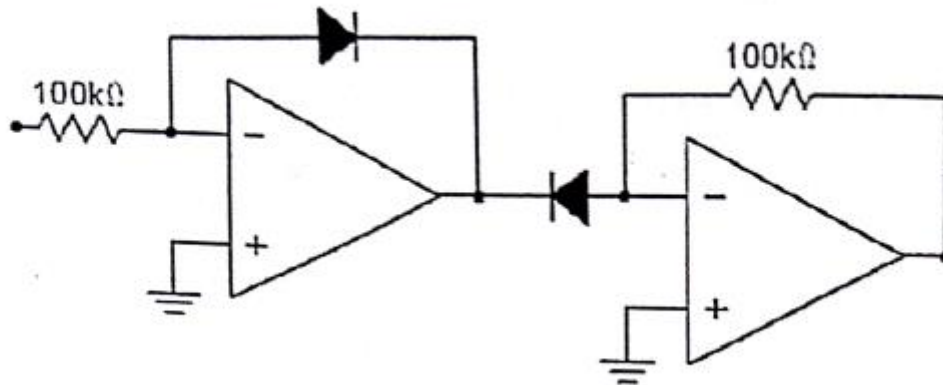

Fig 4
- 6 Reverse the polarity of diode in the antilog amplifier of fig 4.